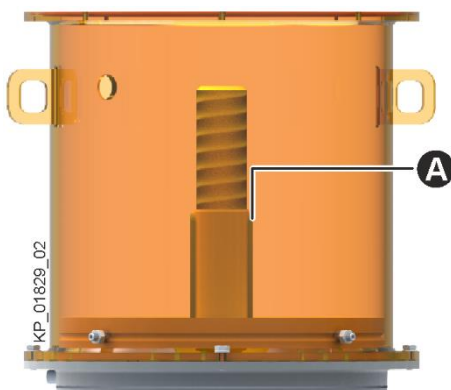

Fig. 19: Basic machine
- Check the feather keys (Fig. 19/A) for correct seating.